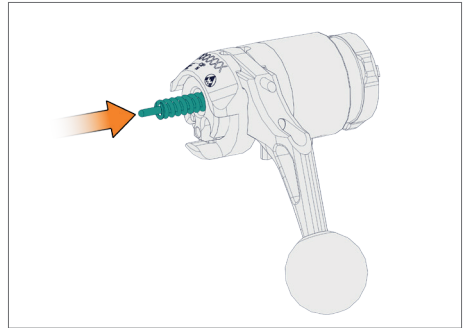

Fig. 13
- Insert the signal pin and firing pin spring into the bolt (Fig. 13).